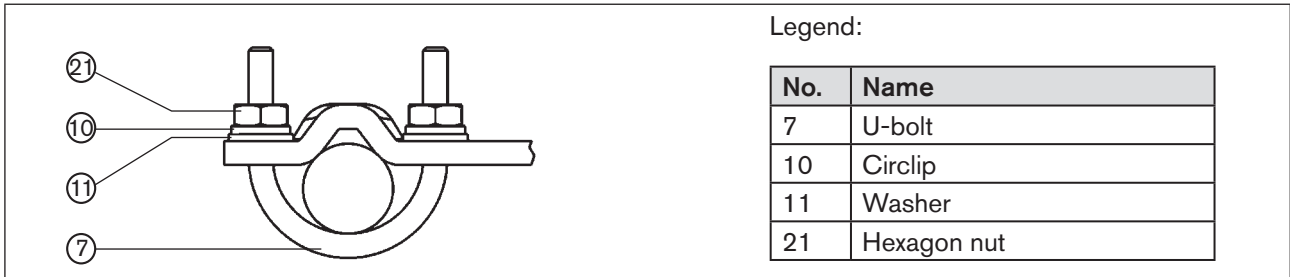

Figure 18: Attach Type 8792/8793 with mounting bracket; for actuators with columnar yoke
→ Attach mounting bracket to the columnar yoke with the U-bolt (7), washers (11), circlips (10) and hexagon nuts (21) (see “Figure 18”).